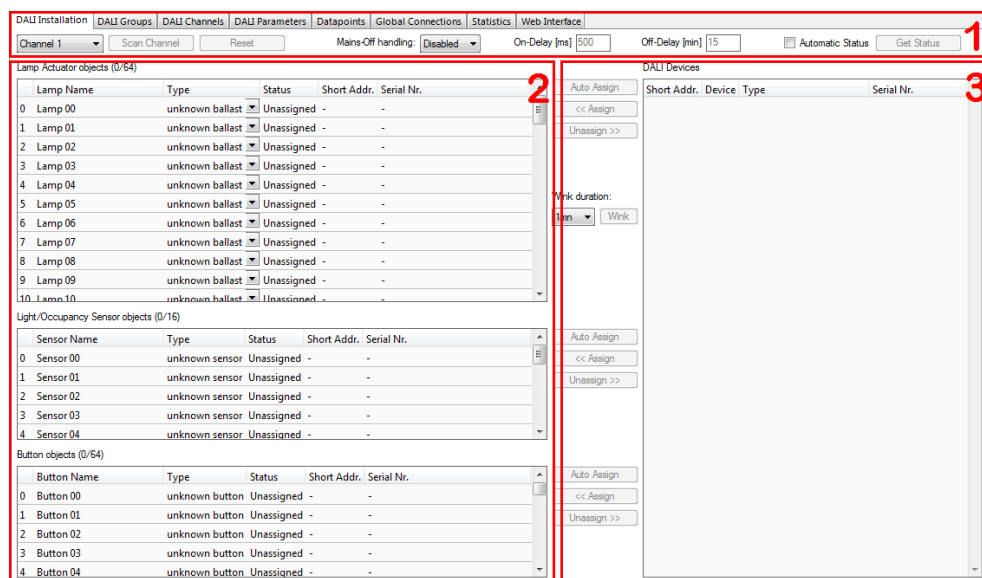
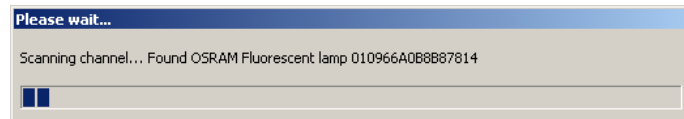

Figure 149: DALI Installation tab.
Figure 150: DALI channel scan progress.
The DALI Installation tab is shown in Figure 149. It is used to scan a DALI channel and assign DALI devices to Lamp Actuator, Light/Occupancy Sensor objects, and Button objects. The dialog is divided into three sections:
- The channel selection and functions section (number 1 in Figure 149).
- The DALI network database with the device assignment (number 2 in Figure 149).
- The DALI network scan results (number 3 in Figure 149).
- The **Scan Channel** button starts a scan of the DALI channel. When pressing the button a window showing the scan progress will be shown (see Figure 150). After the scan the devices found will be listed in the DALI network scan results section (number 3 in Figure 149) of the DALI Installation tab.